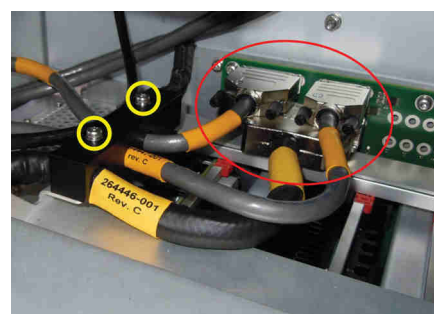

Fig. 7.32 Support, connectors
- 10 Take out the Crate Assy. Remove the cable support using Torx T20 screwdriver (tools 1/8) to remove two screws as indicated with yellow circles in Fig. 7.32 (p. 135). Disconnect the three connectors within the red ellipse in Fig. 7.32 (p. 135) and remove the three cables.
- 11 Connect the three cables on the new Crate Assy and fix them with the cable support (Fig. 7.32 (p. 135)). Place the new Crate Assy in RxTx.